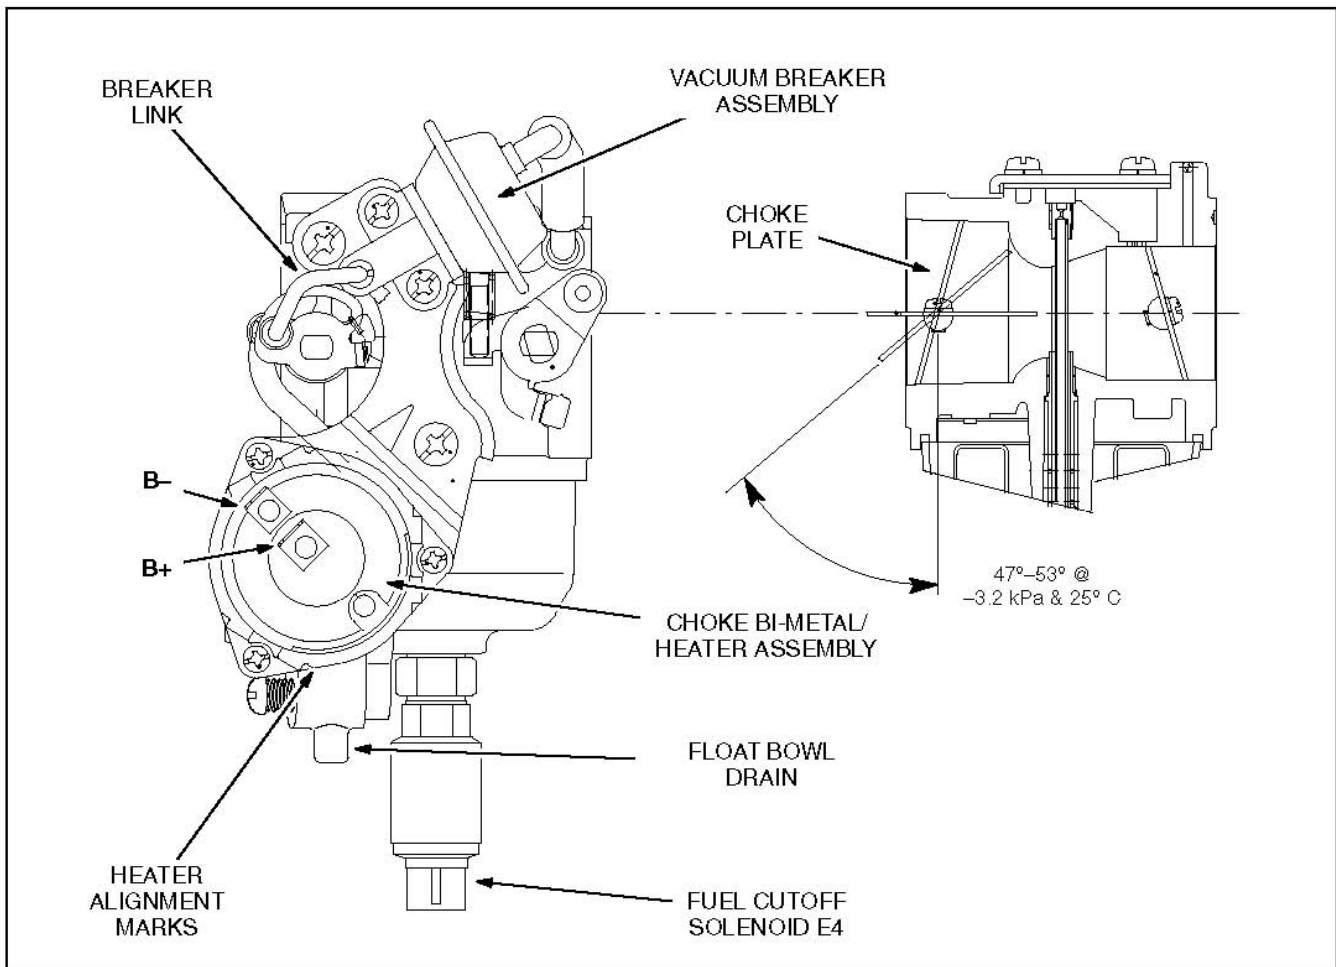

FIGURE 50. CARBURETOR / CHOKE ASSEMBLY
3. Disconnect the leads to the choke heater and fuel cutoff valve (Figure 50).
The carburetor (Figure 50) is not likely to cause problems and should be replaced only after all other problems have been eliminated (see the Troubleshooting section). The carburetor fuel mixture adjustments are sealed at the factory. See Section 9.4.3 to connect the throttle link and to adjust the idle (throttle) stop screw.
The automatic choke is operated by a bi-metal/heater assembly and a vacuum breaker assembly (Figure 50). Conduct the following checks and adjustments before replacing a carburetor/choke assembly:
- The vacuum breaker diaphragm must not leak under a vacuum of 30 inches Hg (100 kPa). It should not take a vacuum greater than 2.4 inches Hg (8 kPa) to open the choke fully. At a vacuum of 1 inch Hg (3.2 kPa) the choke plate should be at the angle shown (Figure 50). If necessary, bend the link at the point shown, using two pliers.
The fuel cutoff solenoid is threaded into the bottom of the carburetor float bowl (Figure 50). If the engine does not start because it is not getting fuel, but fuel can be drained from the carburetor float bowl, the solenoid probably is not opening and should be replaced. To remove and replace the cutoff solenoid: